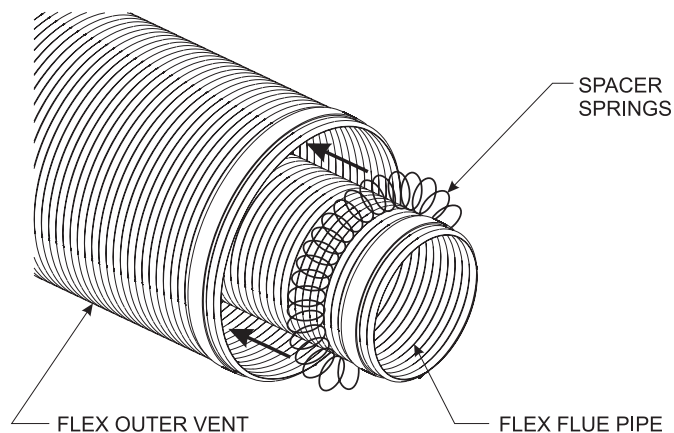

Figure 57
2. Check to see that the vent spacer springs are located around the flue vent at 8 inch intervals along its length. See Figures 57 and 58. If not, stretch the spacer springs to about 15 inches long and wrap them around the flue, then interlock the ends of each spring. Maintain equal distance between spring spacers.